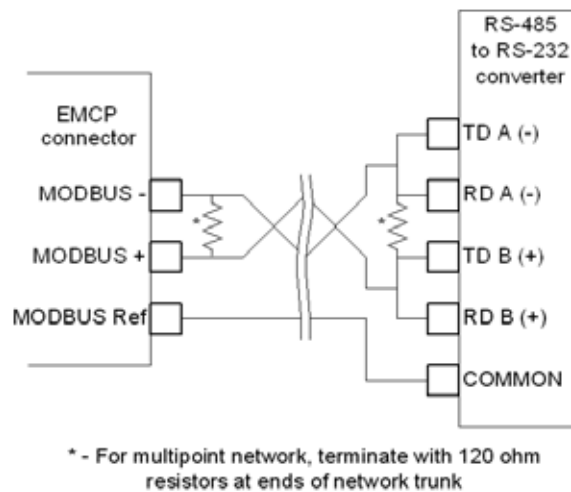

Figure 27.2 – Possible Wiring Configuration to an RS-485 to RS-232 Converter
- Figure 27.2 shows a possible wiring configuration to a RS-485 to RS-232 converter.